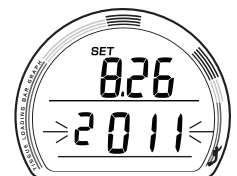

Fig. 51 - SET DATE
**SET DATE**, information is to include (Fig. 51):
- A (hold) to scroll upward through Month Set Points from 1 to 12 in one Month (1) increments at 8/sec.